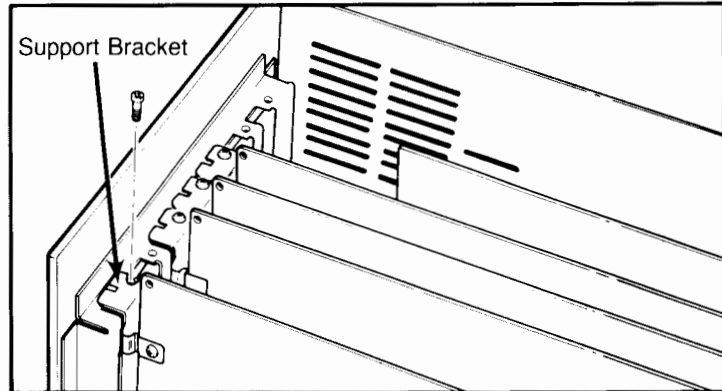

Figure 2-6. Replacing the Slot Cover Screw
8. Use the screw (from Step 4) to secure the card to your computer's back panel, as shown in Figure 2-6.